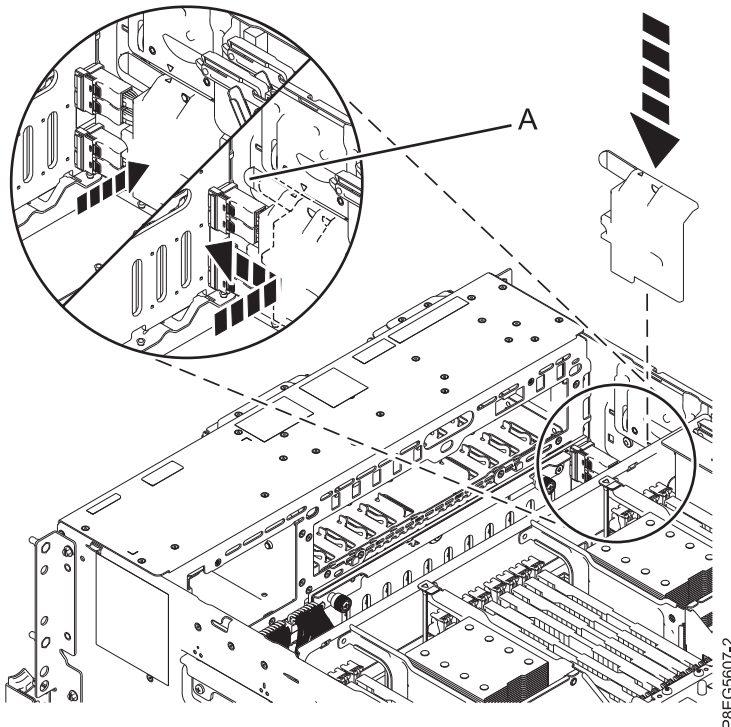

Figure 9. Replacing the SAS cable cover
17. Replace the SAS cable cover. Place the cover slots onto the pins on the side of the chassis. The triangle symbol on the SAS cable cover lines up with the triangle symbol on the side of the chassis when the cover slots and pins are aligned correctly. Push the cover forward toward the front of the system until the handle (A) latches in place. See Figure 9.